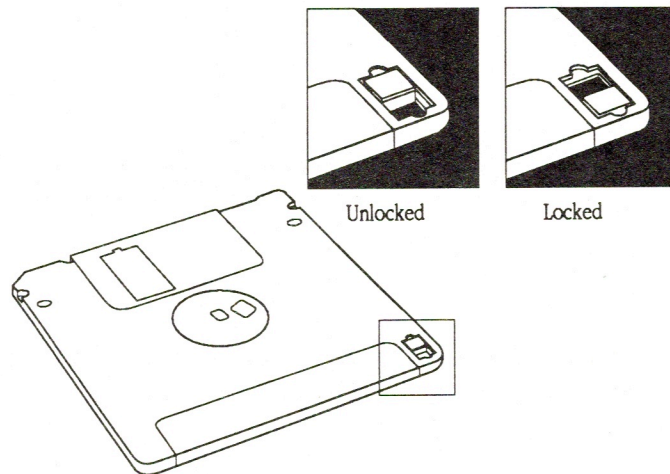

Figure 30. Write-protect source disk
1. Write-protect the source disk as shown in Figure 30.